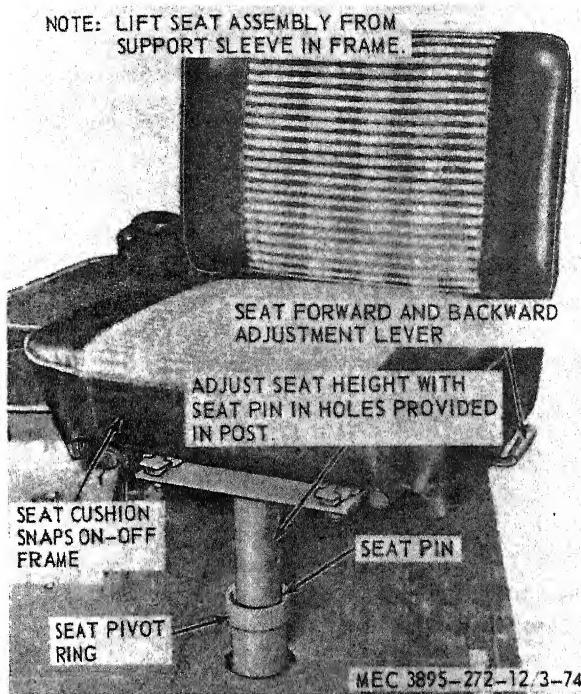

Figure 3-74. Seat assembly, removal and installation.
a. *Removal.* Remove the seat assembly as instructed on figure 3-74.
(1) Clean all parts with an approved cleaning solvent.
(2) Inspect all parts for wear and damage. Replace worn or damaged parts.
c. *Installation.* Install the seat assembly in reverse of the instructions on figure 3-74.